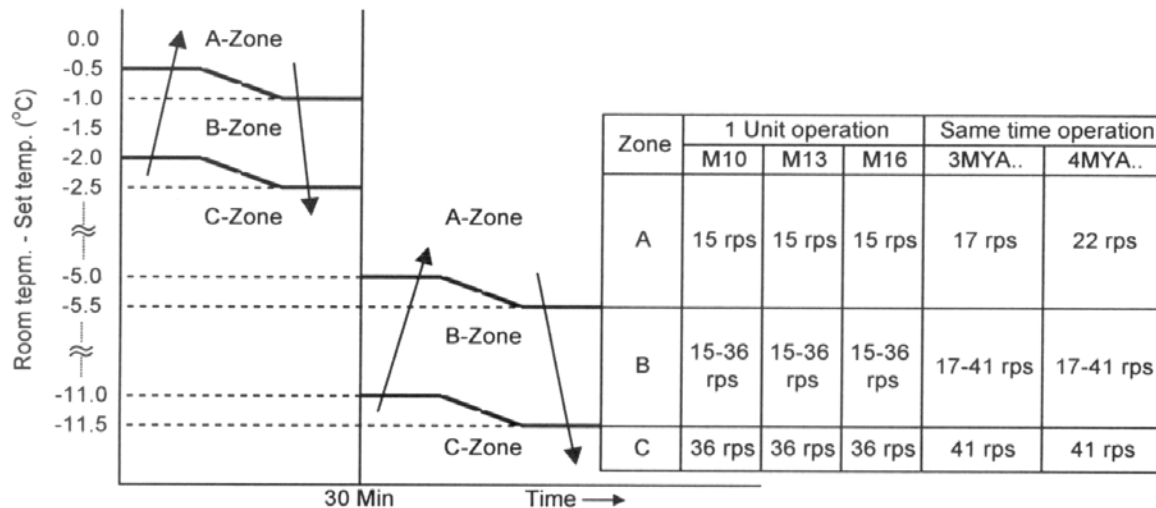

Fig. 6-2-11
- Compressor motor speed is controlled by the difference value of room temperature and set temperature as shown in Fig. 6-2-11